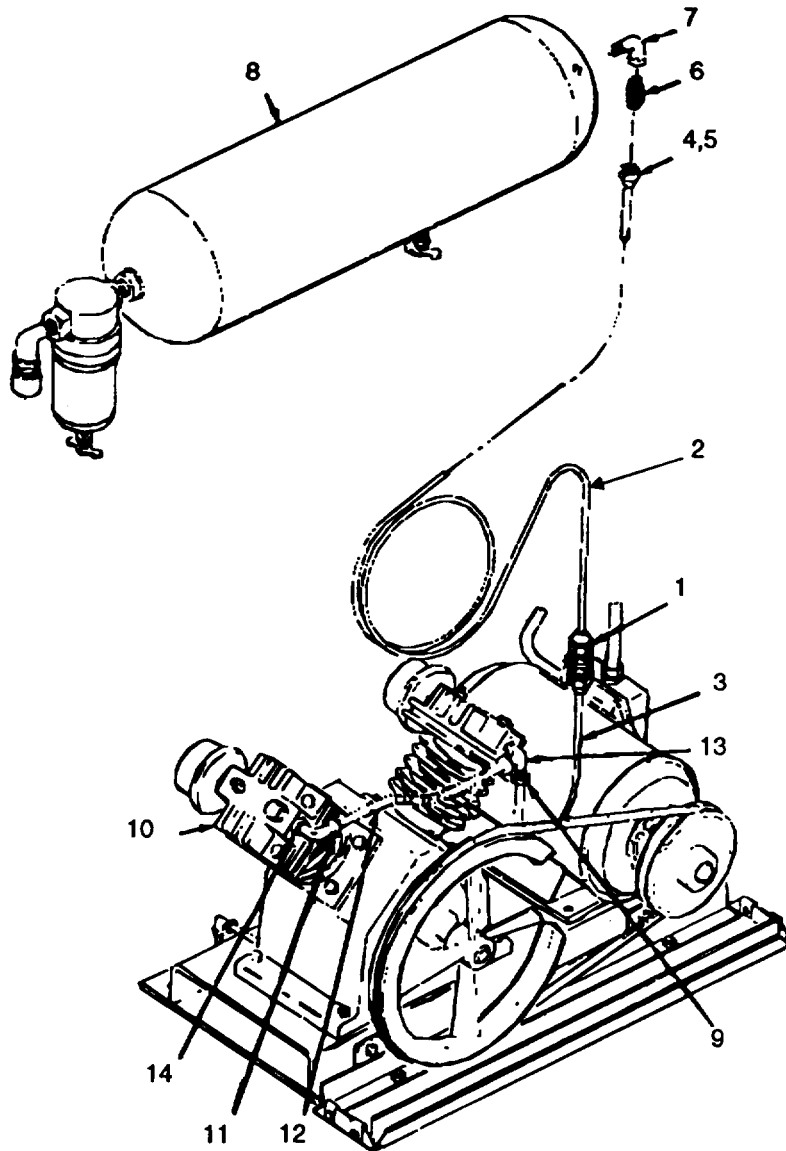

Figure 5-1. Air Line, Removal/Installation.
- a. **Removal.** (Refer to figure 5-1.)
- (1) Disconnect union (1) on air line (2) from tube assembly (3) adapter.
- (2) Loosen coupling nut (4) and sleeve (5). Remove air line (2).
- (3) Remove check valve (6) and elbow (7) from air reservoir (8).
- (4) Disconnect adapter (9) on tube assembly (3) and remove tube assembly (3) from air compressor (10).
- (5) Disconnect two flare nuts (11) on tube assembly (12). Remove tube assembly (12) from air compressor (10).
- (1) Clean all parts with a lint-free cloth (item 4, appx D) or a medium bristle brush (item 2, appx D) and dry-cleaning solvent (item 18, appx D).
(2) Allow all parts to air dry.
**d. Installation.** (Refer to figure 5-1.)
**Apply anti-seize tape (item 19, appx D) to all male threads before installation.**
- (1) Install and tighten pipe tee (13) and pipe elbow on air compressor (10).
- (2) Install tube assembly (12) by attaching two flare nuts (11) of tube assembly (12) onto pipe tee (13) and pipe elbow (14). Tighten the two flare nuts (11).
- (3) Install elbow (7) and check valve (6) on air reservoir (8).
- (4) Connect adapter (9) of tube assembly (3) to pipe tee (13).
- (5) Install air line (2) by attaching coupling nut (4) and sleeve (5) to check valve (6) and by attaching union (1) to tube assembly (3) adapter.